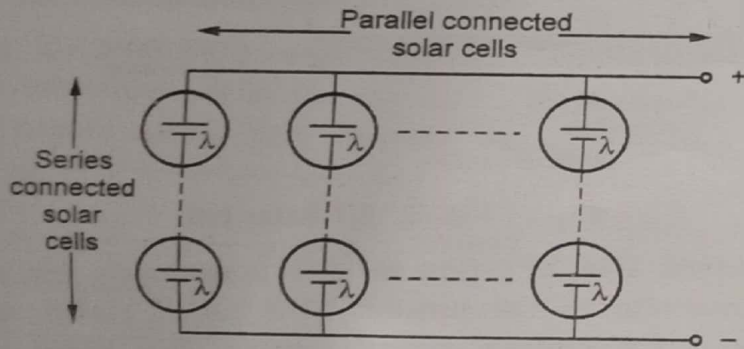

Fig. Q.3.1 Array of solar cells
- In practice to get desired output power, the solar cells are connected in series and such groups are connected in parallel. This is called array of solar cell and shown in the Fig. Q.3.1. The series solar cells provide necessary output voltage while parallel groups provide necessary output current.